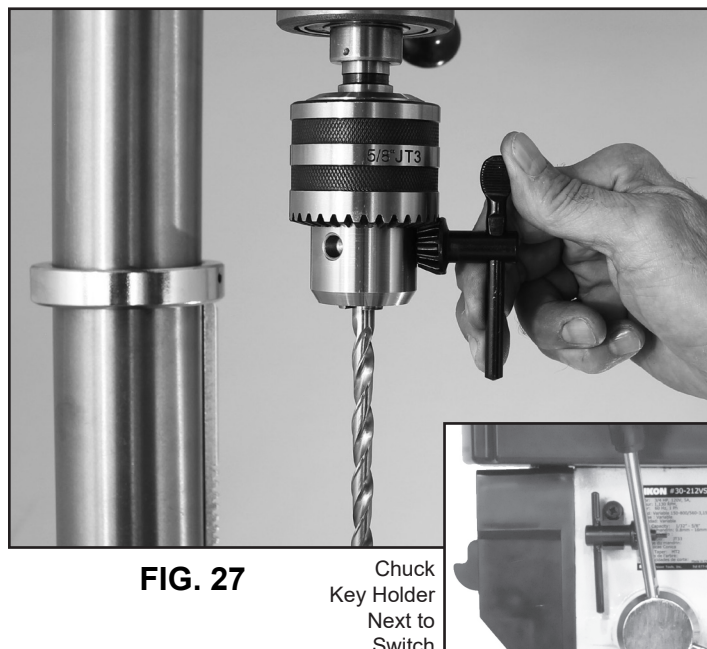

FIG. 27
2. With the chuck key, turn the upper, knurled section of the chuck to open the three chuck jaws. FIG. 27.